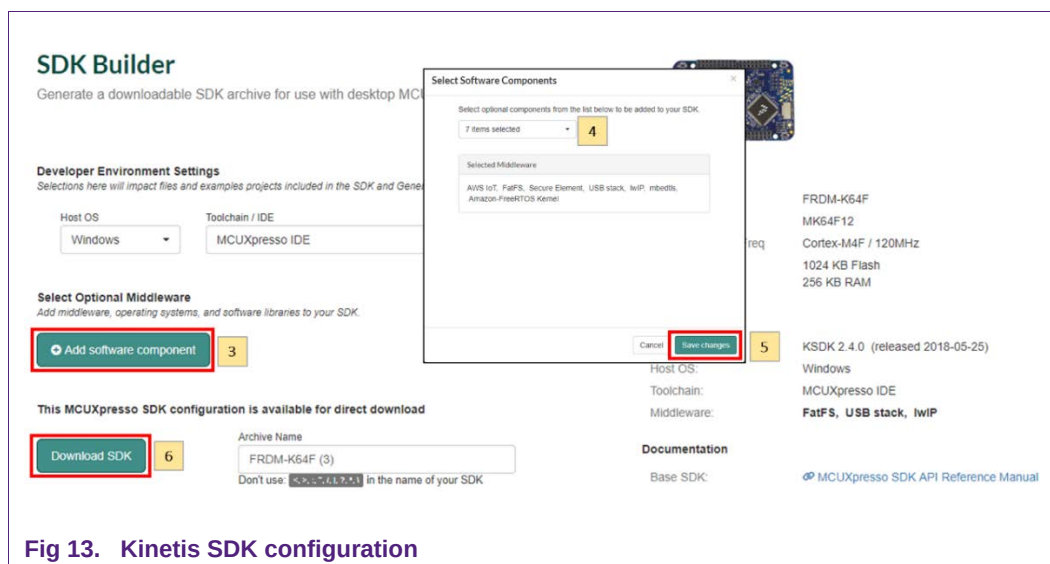

Fig 13. Kinetis SDK configuration
- In the next screen, select the software components, for this example no special items need to be selected and you can skip this step (see Fig 13) and directly click on 'Download SDK'.